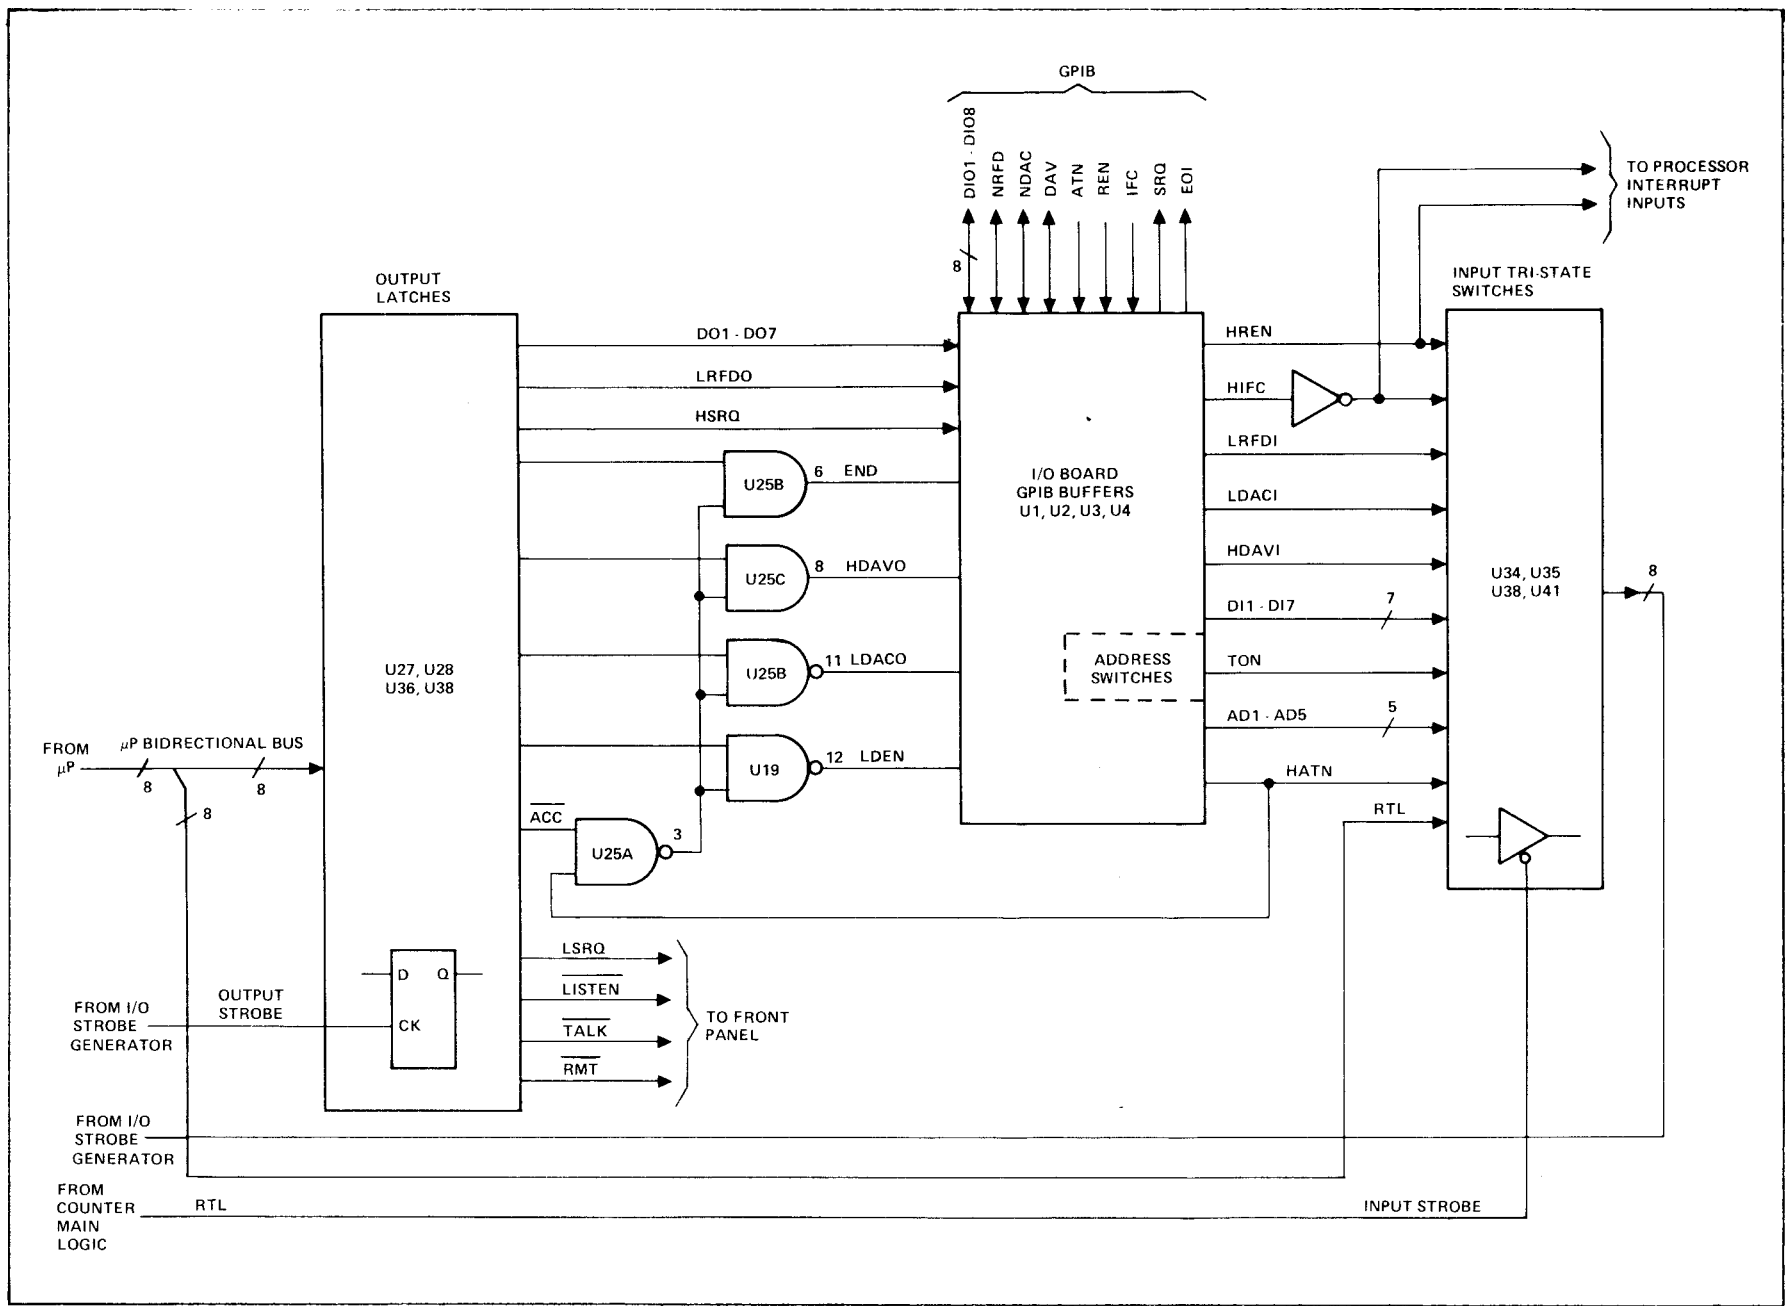

Figure 1.46 - Main Logic Control Circuitry Simplified Diagram
1.5.3.3.1 Figure 1.46 shows a simplified diagram of the Main Logic Control Circuitry. Function, resolution and external arming mode are programmed by the processor by shifting the control signals into a nine-bit shift register under control of the I/O strobe generator. Notice that actual control of these lines does not take place if  $\overline{RMT}$  is in a high state, since the tri-state drivers will be disabled.  $\overline{RMT}$  will be set low by the processor when commanded to go into remote by the controller or if an auto trigger command is detected from the front panel switches.